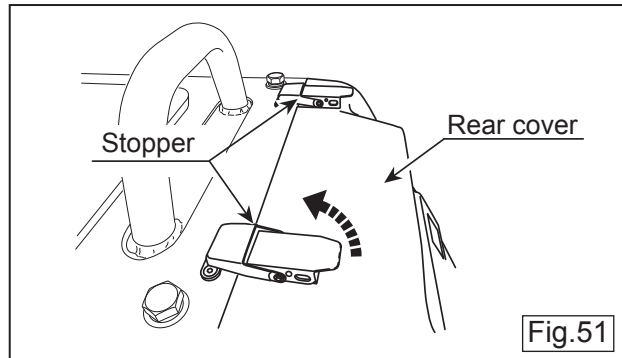

Fig.51
- 1 Remove the stopper at the two locations on the top portion of the rear cover to open the rear cover.(Fig.51)